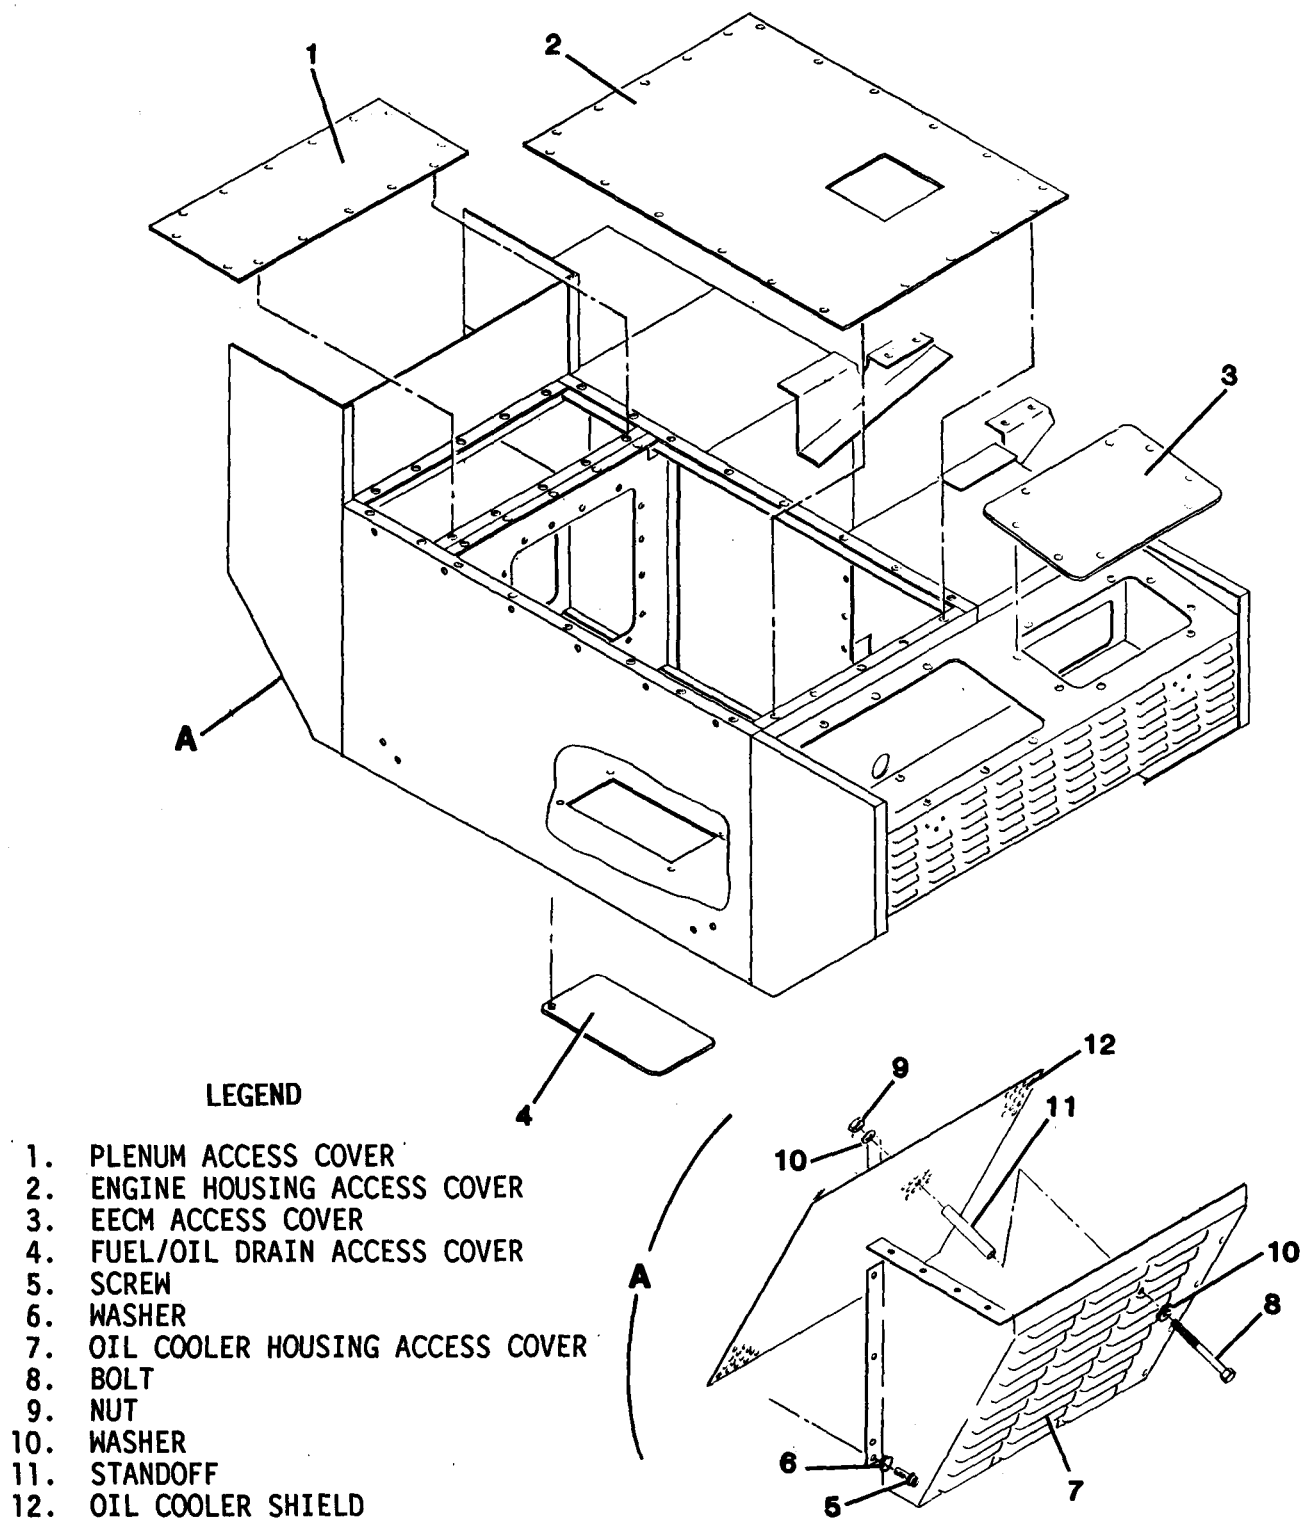

Figure 4-10. Access Cover Replacement
**4-17. ACCESS COVERS.** Organizational maintenance of access covers (figure 4-10) consists of replacement. During replacement procedures on all access covers, inspect the gasketing, insulation, and turnlock fasteners for damage or defect. If damage or defect is found, refer to direct support maintenance.